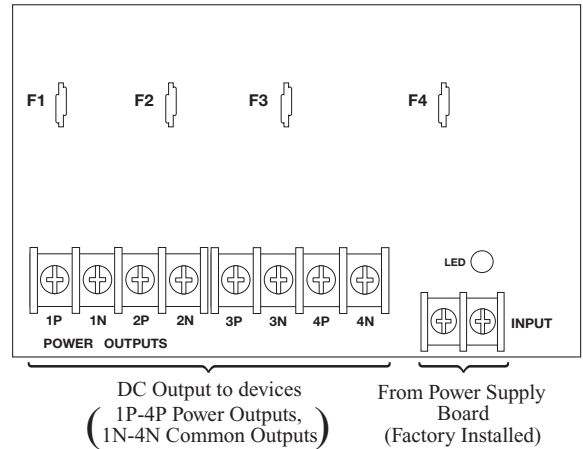

Fig. 3a
- b. For other Power Distribution Models: connect devices to be powered to the terminal pairs 1 to 4 marked [1P & 1N through 4P & 4N] (*Fig. 2a & 2b, pg. 5*) or 1 to 8 marked [1P & 1N through 8P & 8N] (*Fig. 3a & 3b, pg. 5*), carefully observing correct polarity.
6. For Access Control applications batteries are optional. When batteries are not used, a loss of AC will result in the loss of output voltage. When the use of stand-by batteries is desired, they must be lead acid or gel type. Connect one (1) 12VDC battery to the terminals marked [+ BAT -] for 12VDC operation. Use two (2) 12VDC batteries wired in series for 24VDC operation.